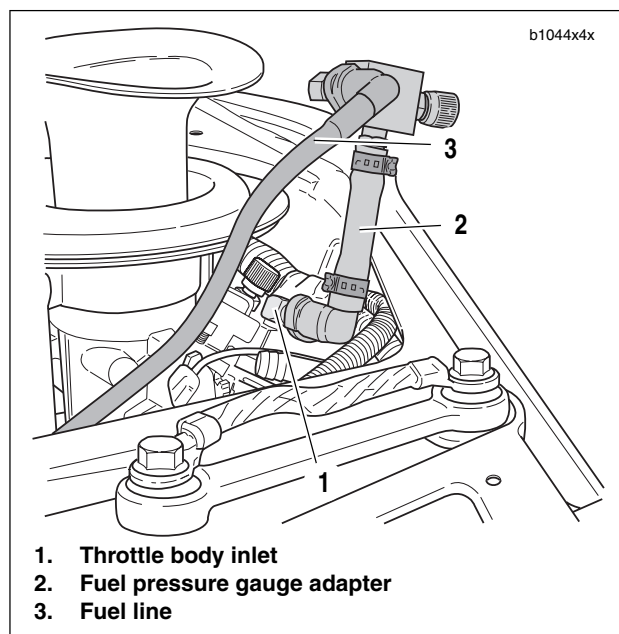

Figure 4-25. Fuel Pressure Gauge Adapter
4. See Figure 4-25. Attach FUEL PRESSURE GAUGE ADAPTER (Part No. B-45522) (2) to throttle body inlet (1).
5. Connect the fuel line (3) to fuel pressure gauge adapter.